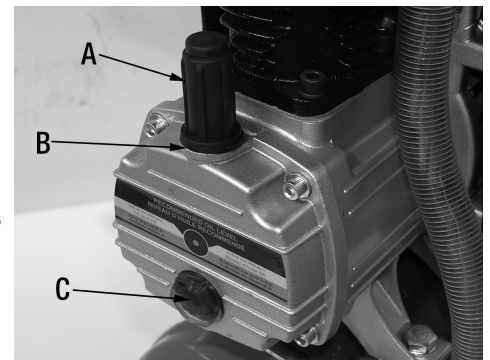

FIGURE 11
To change oil, oil must be drained from the crank case by removing oil sight glass (C) Fig.11. Drain oil and replace oil sight glass. To fill the crank case with oil, first unscrew and remove oil breather cap (A), pour air compressor oil (SAE30 weight non-detergent oil) into crankcase oil opening (B) until the oil level reaches the red dot at the centre of the oil sight glass (C). Replace oil breather cap (A).